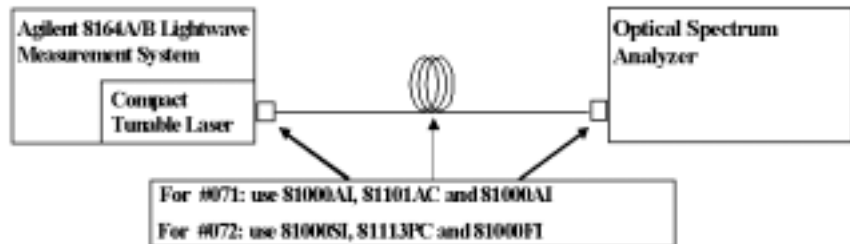

Figure 33 Test Setup for Source Spontaneous Emission Test.
- 1 Set up the equipment as shown in Figure 33: